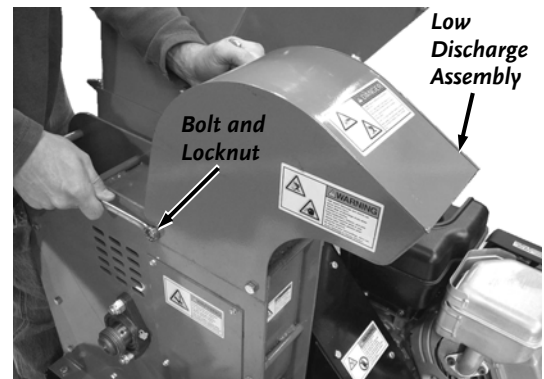

Figure 45
1. Remove the two Bolts and Locknuts from the Low Discharge Assembly with two 1/2" wrenches (**Figure 45**).